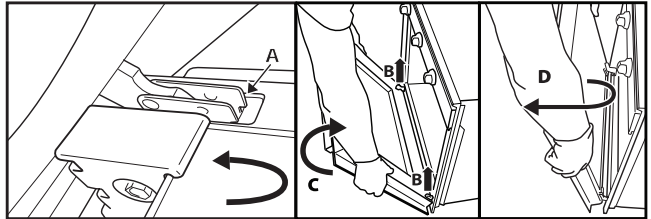

Fig. 2
3. Close the door as far as it will go (A), lift it up (B) and turn it (C) until it is released (D) (fig. 2).
2. Other accessories, such as the drip tray and baking tray, are inserted in the same way as the wire shelf (fig. 2).